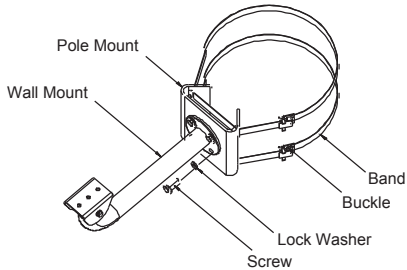

Figure 2: Securing the LTC 9213/01 with an LTC 9212/00, LTC 9215/00 or an LTC 9215/00S
- For model LTC 9213/01 with an LTC 9212/00, LTC 9215/00, or an LTC 9215/00S, secure the wall mount to the pole mount using the four (4) 8 mm screws and lock washers provided. Use the four larger holes that are in a square pattern around the center (see *Figure 2*).